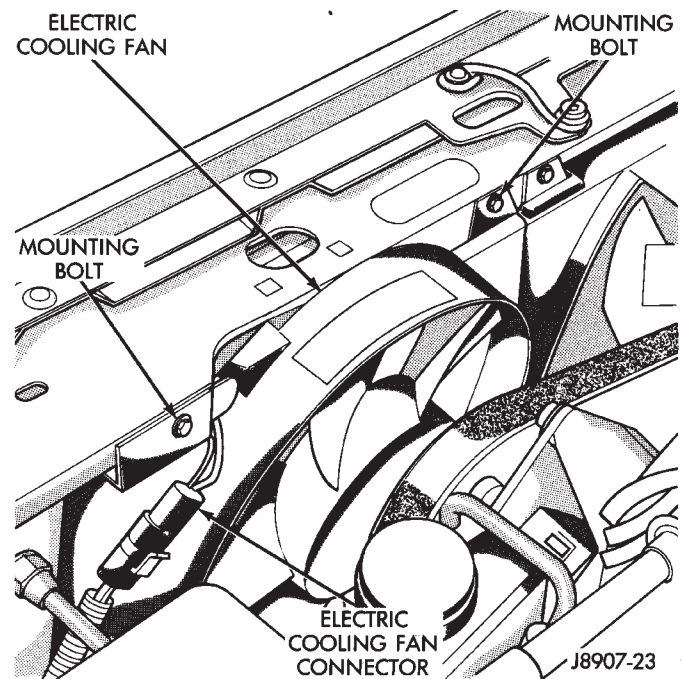

Fig. 41 Auxiliary Fan—Remove/Install
- (1) Remove the fan retaining bolts from radiator upper crossmember (Fig. 41).
- (2) Disconnect the electric fan connector.
- (3) Lift fan straight up and out of vehicle.